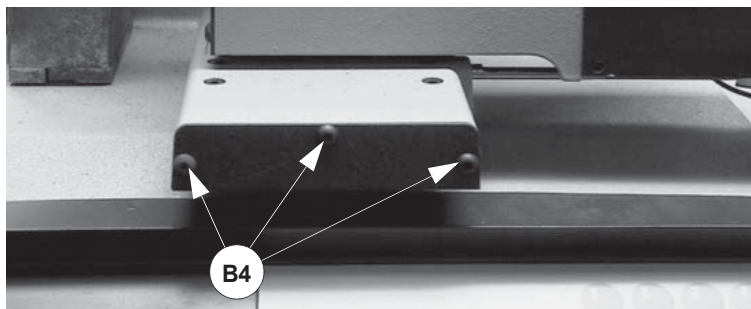

Fig. 142
- 5) remove the front cover on the (X axis) lower carriage (fig. 142) by unscrewing the 3 (B4) screws.